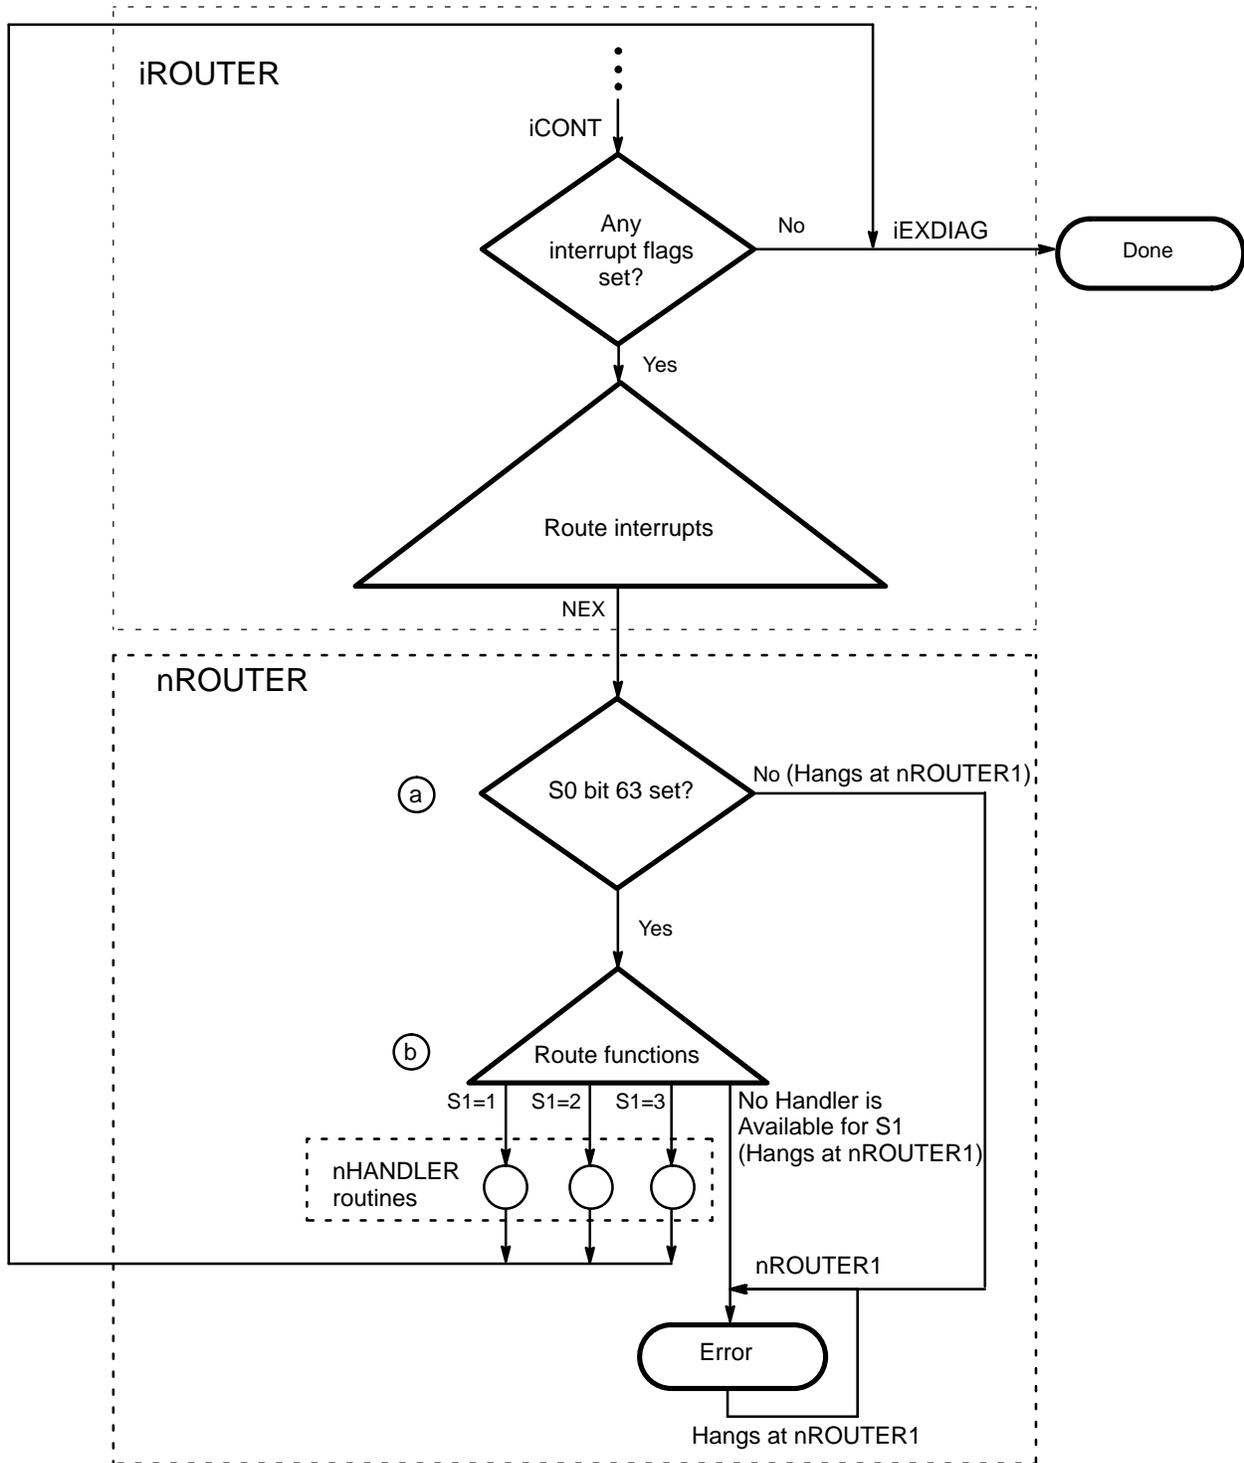

Figure 23. Normal Exit Interrupt Processing
4. The nROUTER code examines the function code in the S1 register and sends control to the corresponding handler, which is a library handler or normal exit handler (nHANDLER). The nROUTER code performs the following actions, as shown in Figure 23.
The circled letters in Figure 23 correspond to the lettered steps that follow this figure.